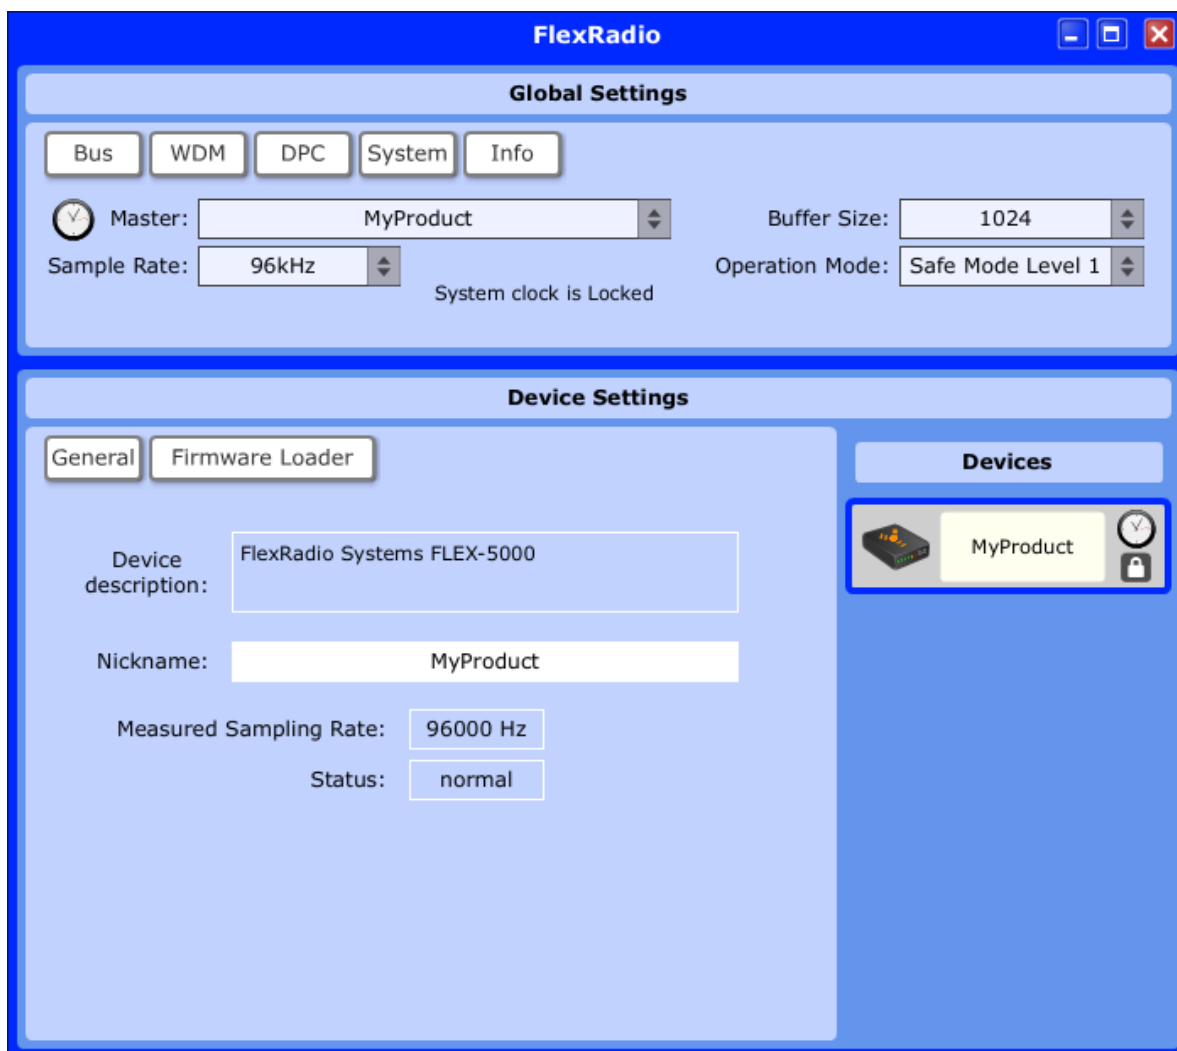

Figure 148: FlexRadio Driver Control Panel - Default View
The FlexRadio Driver comes with a Control Panel which enables you to verify and set various parameters. To open the Driver Control Panel make sure your FLEX-3000 is turned on and then double-click on the FlexRadio Driver's desktop icon you created during installation. Alternatively, click on Start → All Programs → FlexRadio Systems → FlexRadio. You will see the Control Panel as shown in Figure 148.
- ❑ **Master** displays the **Nickname** of your FlexRadio. The default **Nickname** is ***MyProduct***, as shown in Figure 148 on page 159. (You can change this to any nickname you desire by clicking on the **Nickname** displayed in the lower **Device Settings** section).
The lower Device Settings section has two buttons which act as tabs: **General** and **Firmware Loader**. (see Figure 148 on page 159).
- ❑ **Measured Sample Rate** should equal the **Sample Rate** shown in the Bus Global Sections panel (see Figure 148).